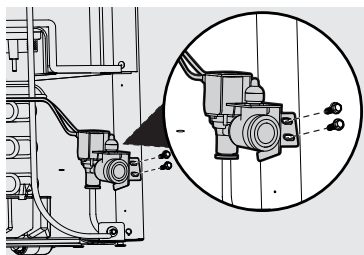

Figure 12
- The water valve location has pre-made holes on the right rear of the unit. The water line should be oriented downward when the valve is installed. Install the water valve using a $\frac{1}{4}$ " hex head driver, install the 2 hex head screws. Tighten screws until they are snug and then tighten an additional $\frac{1}{4}$ turn. See Figure 12.